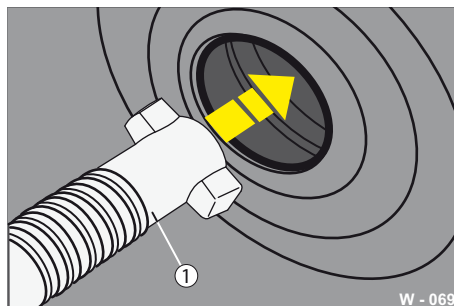

Fig. 54 "Keyhole" aperture
- ▶ Insert the release bolt (Fig. 54/1) through the hole in rear cover into the "keyhole" aperture.